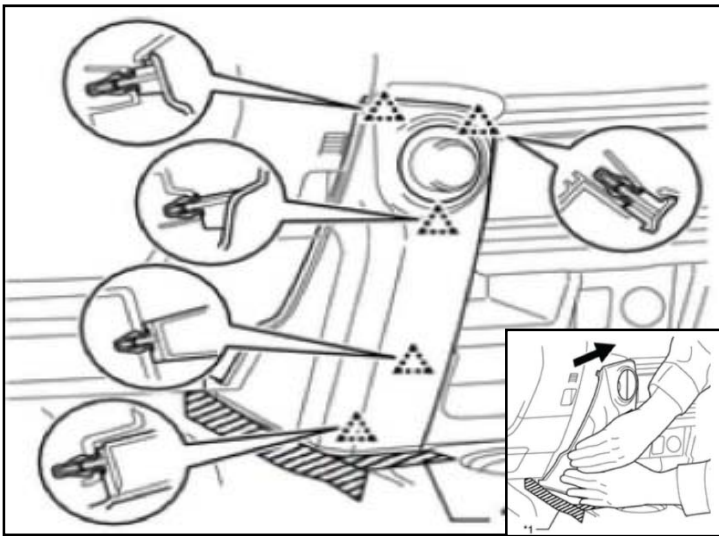

Figure 5
7. Using a pry tool, loosen the instrument cluster finish panel garnish located at the left of the steering wheel. Grip the instrument cluster finish panel garnish and pull it diagonally upward toward the rear to detach the 5 clips. See Figure 5.